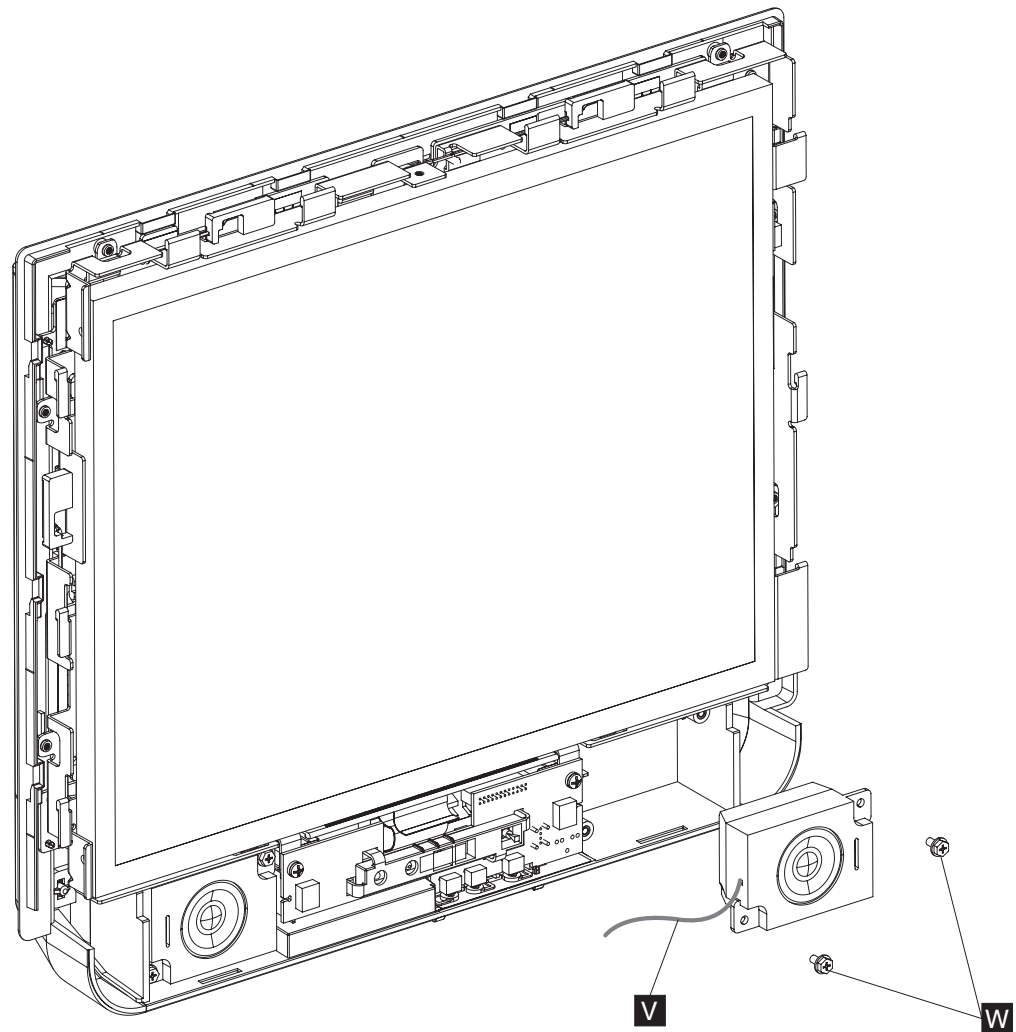

Figure 36. Removing the speakers
3. Remove the two screws (**W** in Figure 36) that retain each speaker and lift to remove.